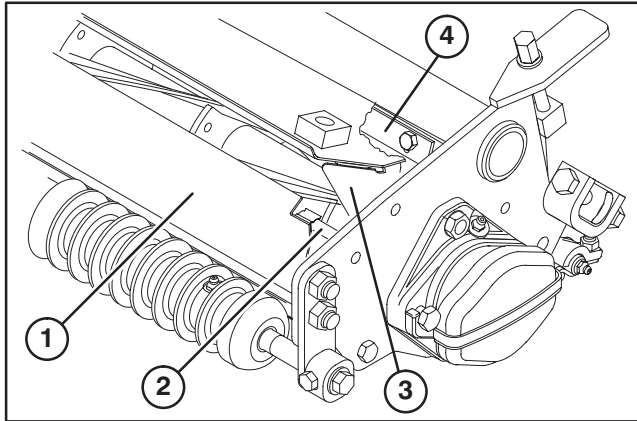

Figure 15
20. Modify cutting unit shields (Fig. 15) as follows: